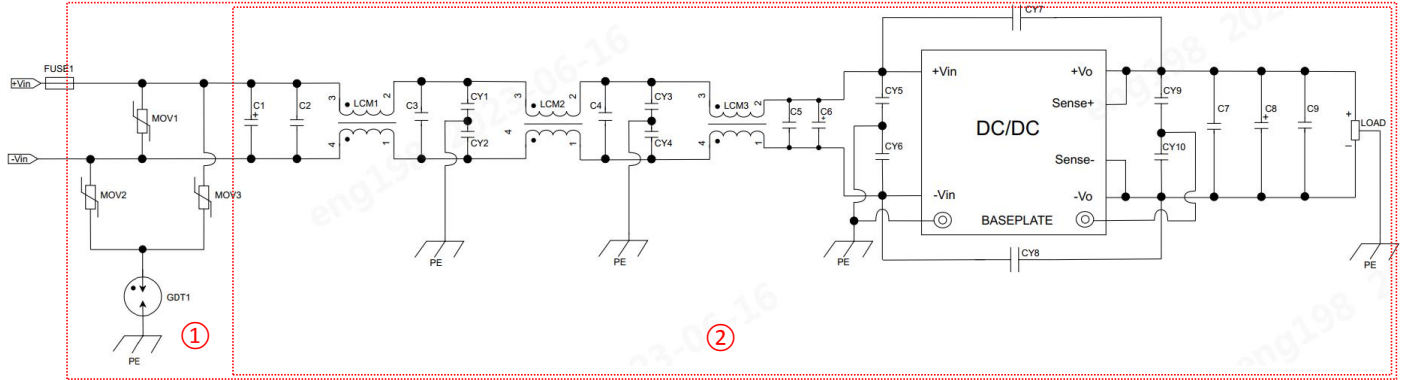

Fig. 8
RE	CISPR32/EN55032 CLASS A (see Fig.8② for recommended circuit)